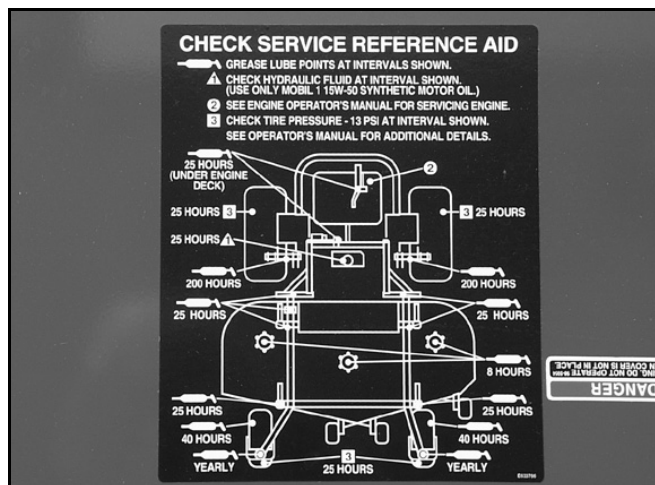

Figure 15
Lubricate the machine when shown on the **Check Service Reference Aid** decal (Figure 15). Grease more frequently when operating conditions are extremely dusty or sandy.
Lubricate the grease fittings as shown on the **Check Service Reference Aid** decal (Figure 15).
2. Grease the fittings on the three spindle bearings until grease comes out lower seals (Figure 15).
3. Grease the fittings on the push arms (Figure 15).